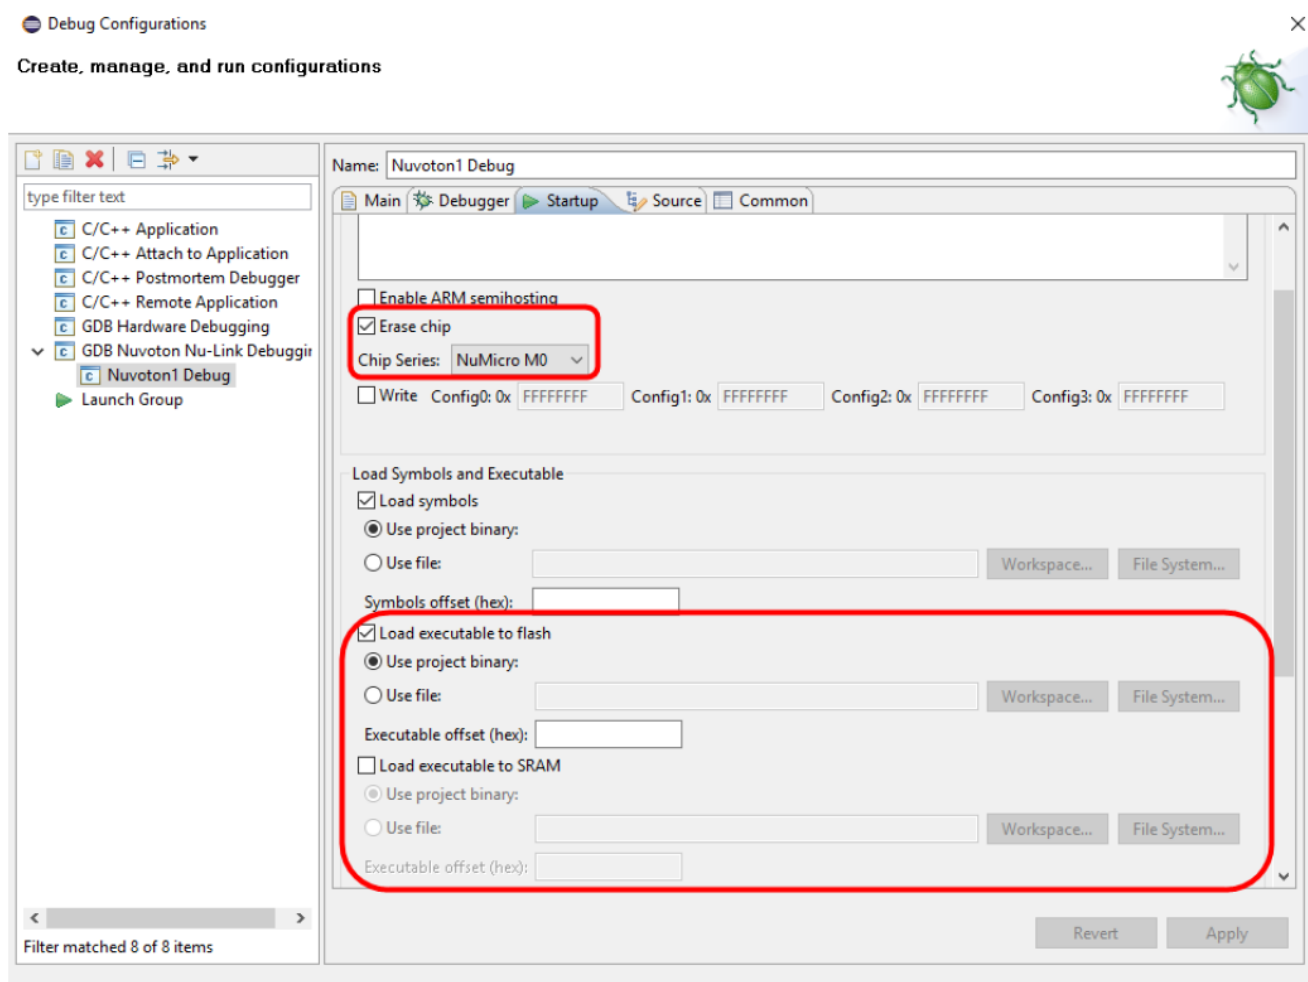

Figure 4-23 Configuring the Startup Tab
Step 6: At last, click Apply to save the settings, as shown in Figure 4-23.